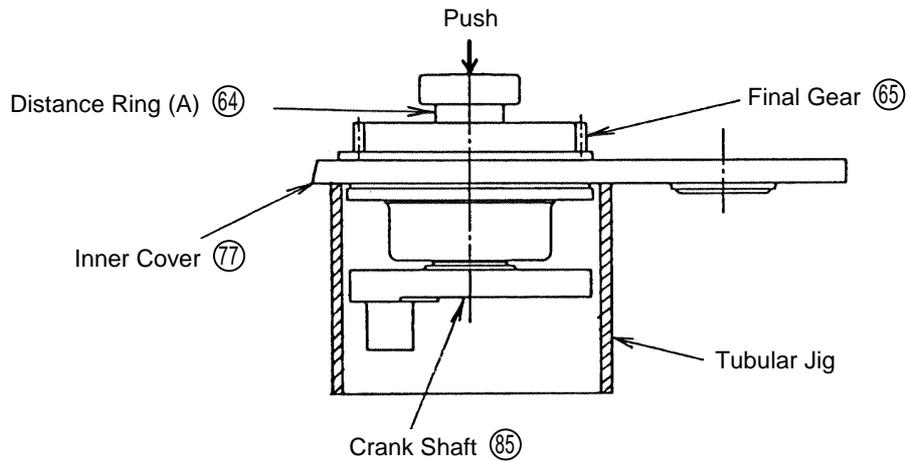

Fig. 9
(2) Disassembly of the Crank Shaft (85) Section:
Remove the four M8 x 18 Hex. Socket Hd. Bolts (82). As illustrated in Fig. 9, support the lower surface of the Inner Cover (77) with an appropriate tubular jig (100 mm inner dia.), apply an appropriate steel rod (maximum diameter of 19 mm) to the end surface of the Crank Shaft (85), and push it downward with an arbor press. The 6204ZZCM Ball Bearing (63), Distance Ring (A) (64), Distance Ring (B) (66), Distance Ring (C) (78), Final Gear (65), 4 x 4 x 12 Feather Keys (64) Bearing Boss (81), 6305ZZCM Ball Bearing (79) and Crank Shaft (85) can then be removed from the Inner Cover (77).